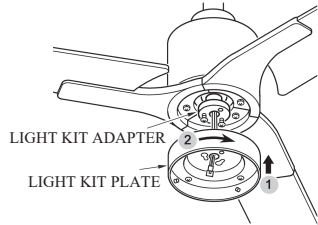

FIG.18
2. Gently pull the wire through light kit plate. Have the key hole over the loosened screws. Turn the light kit plate clockwise, and tighten the previously removed and loosened screws. (See Fig.18&19)